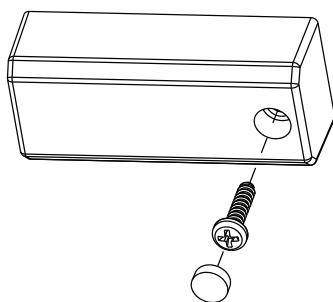

FIGURE 3
3. Secure the c-Max™ node in place by fastening the included M3 button head screw with a Hex (Allen) key (not included). Once the screw is secured, cover it with the included silicone cap (see **Fig. 3** - drawing for illustration only, actual screw may look different.)